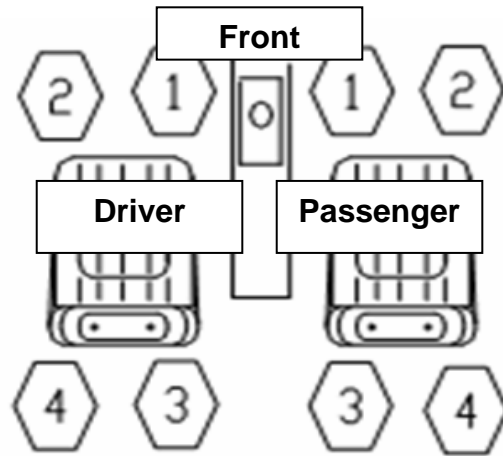

Figure 1-20
23. Install the seat mounting bolts by hand, then torque the bolts in the order shown in Figure 1-20.